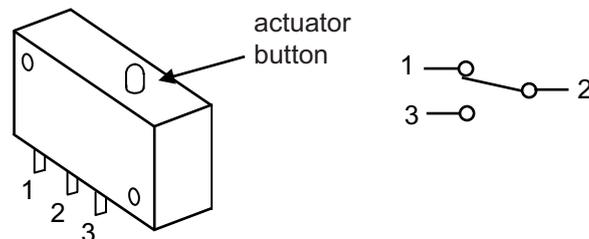

Fig. 1(a)
- 1 (a) A microswitch is to be used to provide an input to an electronic system. The microswitch is operated by pressing the actuator button. The microswitch and its corresponding circuit symbol are shown in **Fig. 1(a)**.